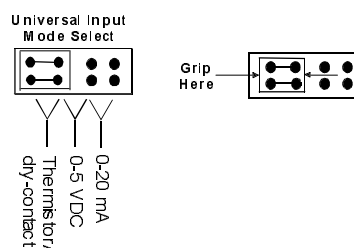

Figure 9. Jumper Position
3. Set the configuration jumper for each input to indicate the type of input used. Make sure the jumper is positioned correctly, and be sure to grip the jumper by the sides only (see Figure 9).